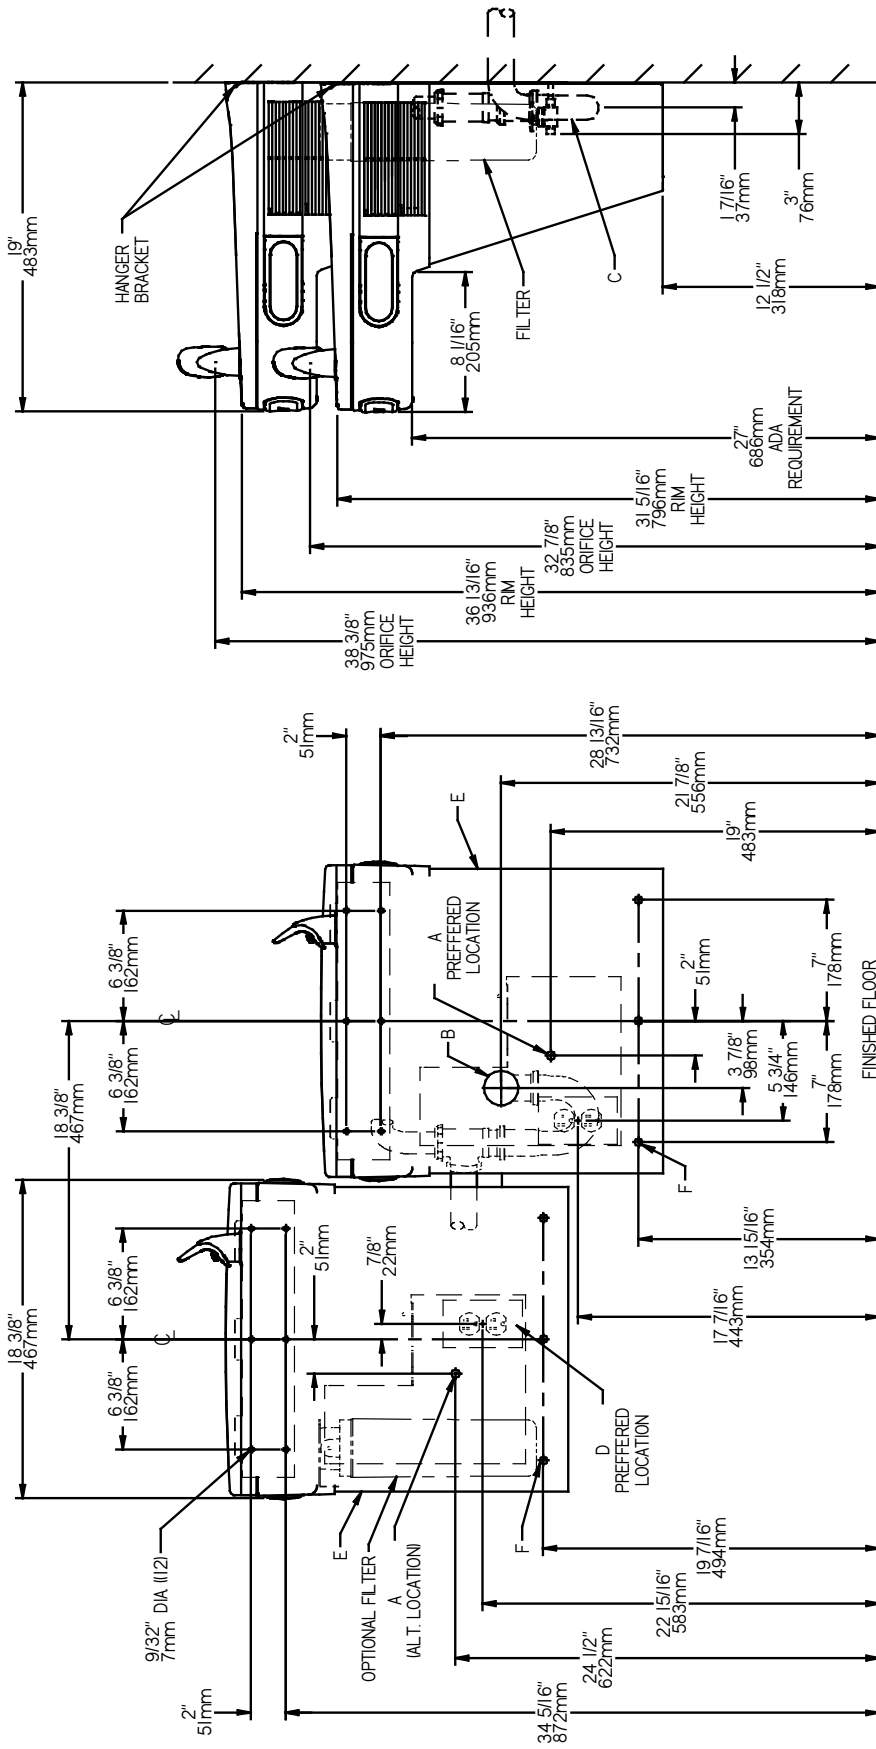

FIG. 2
- 1) Remove hanger brackets fastened to back of cooler by removing one (1) screw.
- 2) Mount the hanger brackets as shown in Figures 2 or 3.
- 3) Hang the cooler on the hanger bracket. Be certain the hanger bracket is engaged properly in the slots on the cooler back as shown in Figures 2 or 3.
- 4) Remove the four (4) screws holding the lower front panel at the bottom of cooler. Remove the front panel by pulling straight down and set aside.
- 1) Retire el soporte fijador que se encuentra conectado a la parte posterior del enfriador sacando un (1) tornillo.
- 2) Monte el soporte fijador de la manera descrita en Fig. 2 y 3.
- 1) Retirez le support de suspension fixé au dos du refroidisseur en retirant une (1) vis.
- 2) Montez le support de suspension comme indiqué dans la figure 2 et 3.